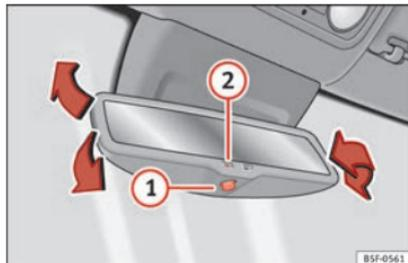

Fig. 24 Automatic anti-dazzle interior rear vision mirror.
Switching on the automatic anti-dazzle function: press the ① » » » Fig. 24 button. The ② warning lamp lights up and, in bright light, the rear view mirror darkens.